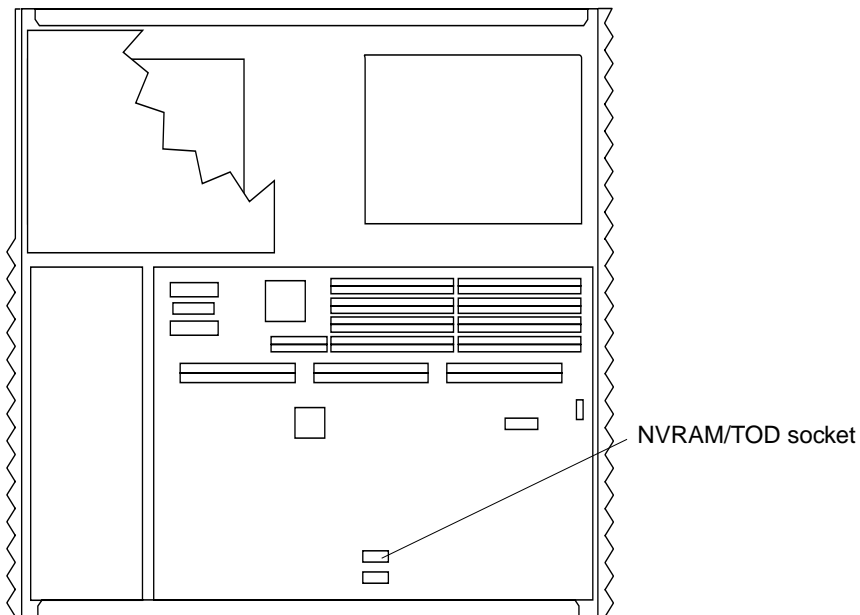

FIGURE 11-45 NVRAM/TOD Location
4. Locate the NVRAM/TOD chip on the system board (FIGURE 11-45).